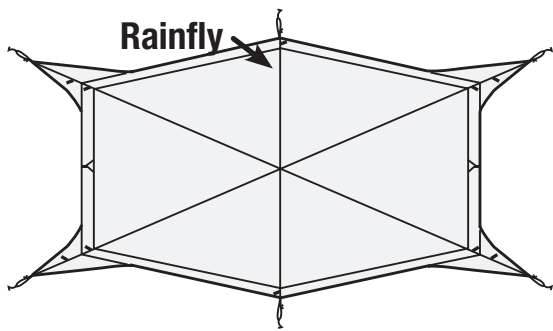

Fig. 7
- Drape rainfly over tent. (Fig. 7 and 8)